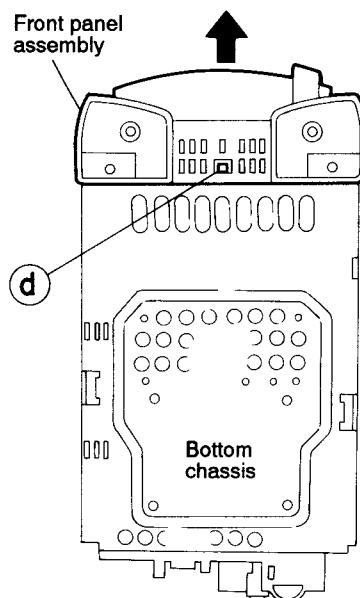

Fig. 5-12
■ Removing the front panel assembly (See Fig. 5-12)
5. From the bottom of the body, disengage the engagement ⑧ fixing the front panel assembly in Fig. 5-12 while pressing it with a minus screw driver, etc.